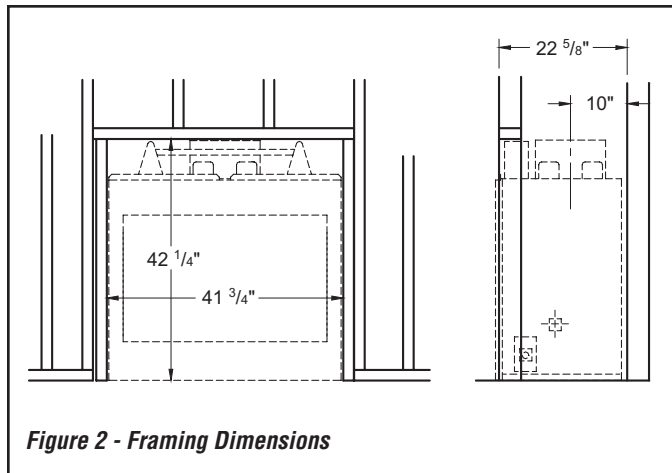

Figure 2 - Framing Dimensions
1. The location must allow for proper clearances (*see Figures 2 and 3, page 4*).
1. Frame opening for fireplace using dimensions shown in **Figures 2 and 3**.